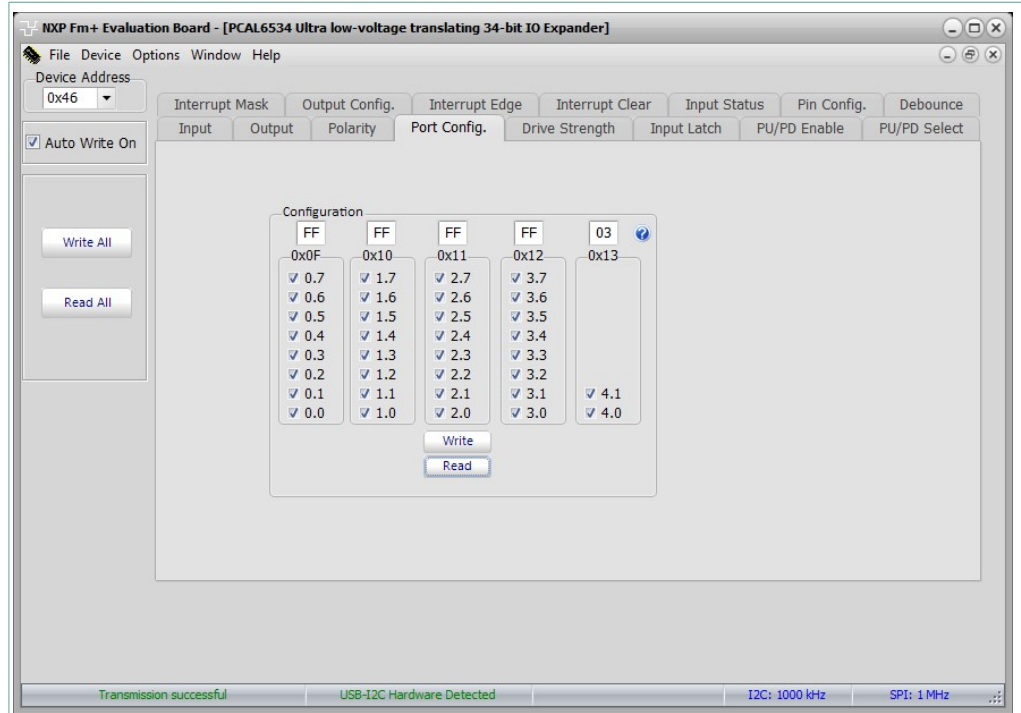

Figure 13. Device configuration screen for registers 0F-13 hex
- 5. Port Configuration registers read or write are shown in Figure 13.